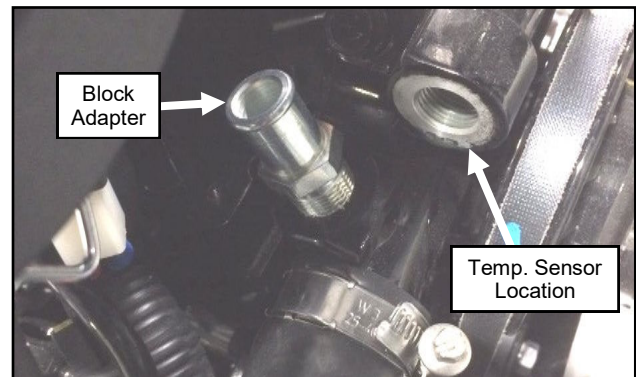

Figure 17.7 (Block Adapter Install)
- 17.7** Disconnect temp sensor wire from the back of the temperature sensor. Remove 3/8" plug as well as temperature sensor and brass washer from water pump. See figure 17.7.
- 17.8** Install block adapter into 3/8" plug location per figure 17.7.